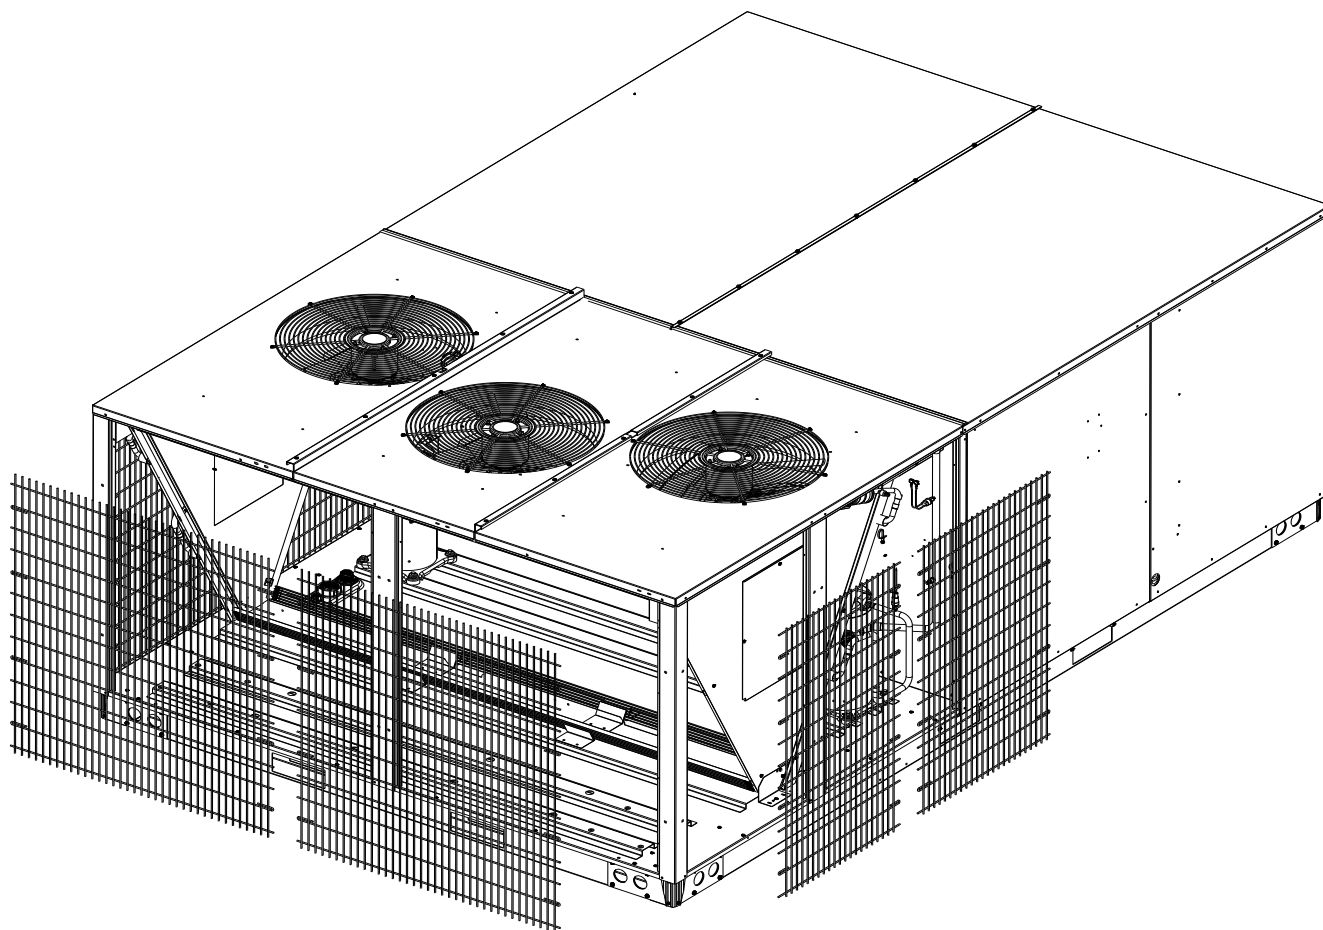

Figure 1
Hail Guards are to be installed on the outside of the condenser coils, see figure 1.
1. Remove the existing condenser grilles by removing the screws holding them in place. Be careful as they can fall once all screws are removed. Before removing the last screw on each grille guard, hold the grille in place with your hand or have someone hold it in place. (See Figure 1)